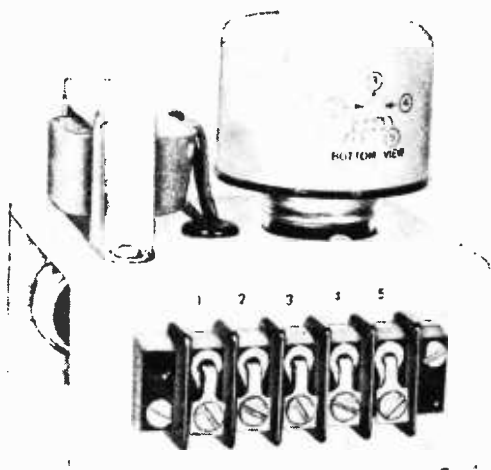

Fig. 3. This rear-view photo of the call monitor shows major components mounted on an open-end chassis. The operating controls are on front panel.
**Construction.** Start construction by laying out the chassis and drilling the mounting holes along the lines of Fig. 3. Then mount the relay socket and transformer in place on the chassis, running the transformer leads through the  $\frac{3}{8}$ " rubber grommet. The transformer black leads are the signal input terminals.